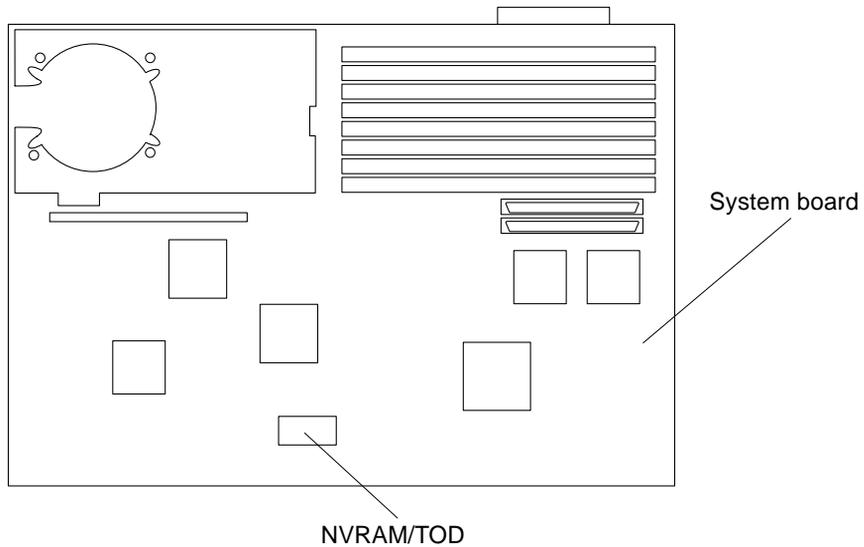

FIGURE 10-11 NVRAM/TOD
4. Locate the NVRAM/TOD and carrier on the system board (FIGURE 10-11).
1. **Position the replacement NVRAM/TOD and carrier on the system board (FIGURE 10-11).**